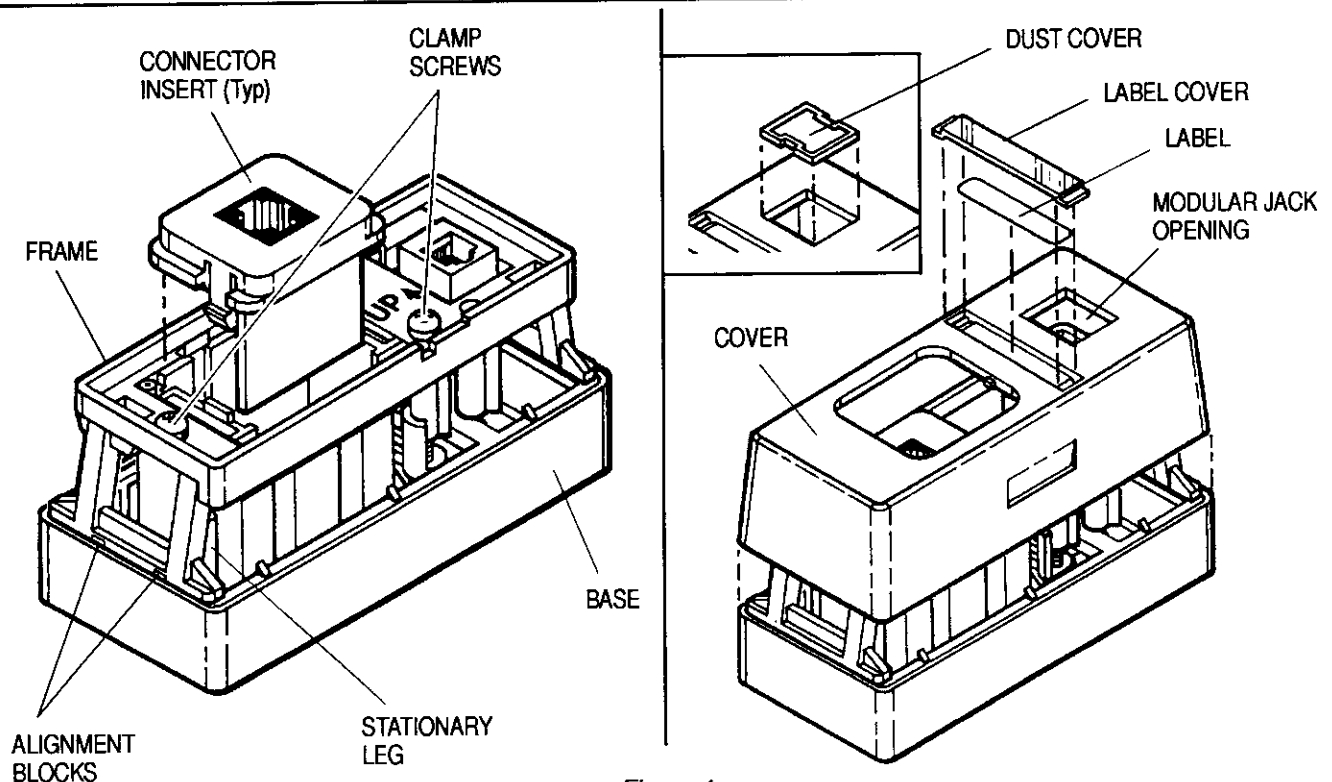

Figure 4
4. Mount frame to base. Insert stationary leg into base, then seat frame on alignment blocks and tighten clamp screws. See Figure 4.